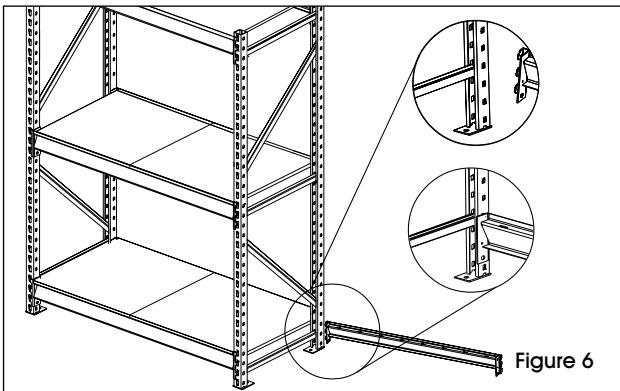

Figure 6
7. Attach the shelf beams to the starter unit by hooking them into the holes in the front and back of the starter unit upright. (See Figure 6)